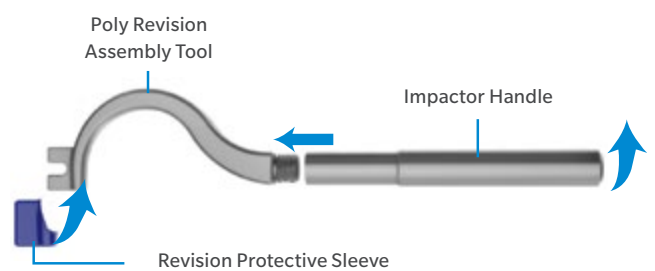

Fig. 104
- Assemble the Poly Revision Assembly Tool to the Impactor Handle (Fig. 104).